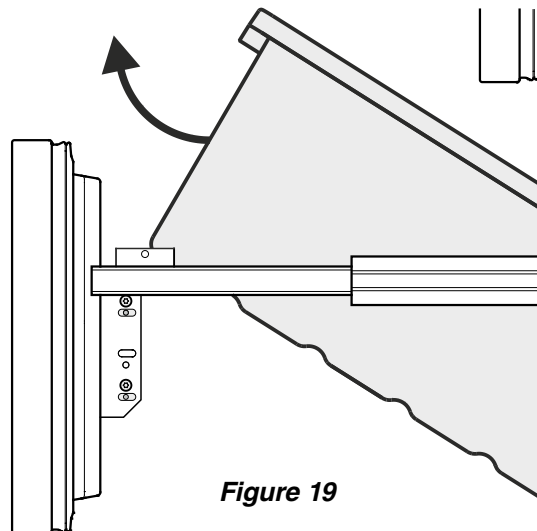

Figure 19
- Tilt the container at an angle and remove - **Figure 19**.